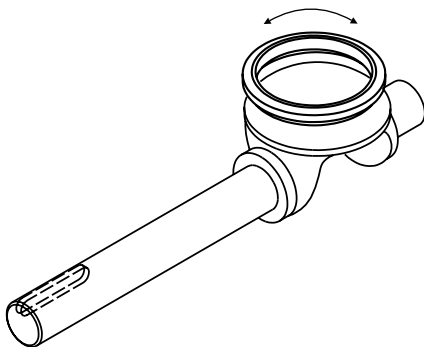

Fig.6-9 Cleaning, grinding and lubrication
3. Grind the ball segment into the new seat. Use valve grinding paste and rub the seat and ball segment against each other until the surfaces of the sealing area are evenly matt (→ Fig.6-9).
Grind the ball segment into the new seat. Use valve grinding paste and rub the seat and ball segment against each other until the surfaces of the sealing area are evenly matt (→ Fig.6-9).